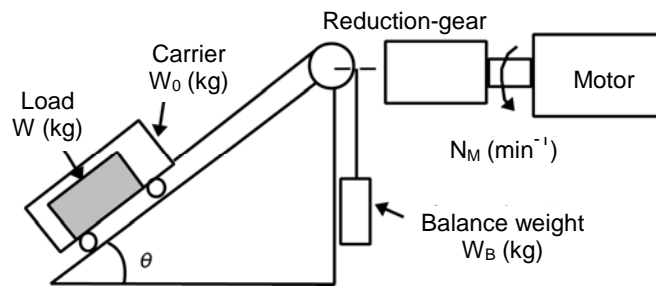

Figure 3.9 Inclined Lift Load
If the incline angle is θ , and the friction coefficient is μ , as shown in the figure 3.9, the driving force F (N) is expressed as follows: